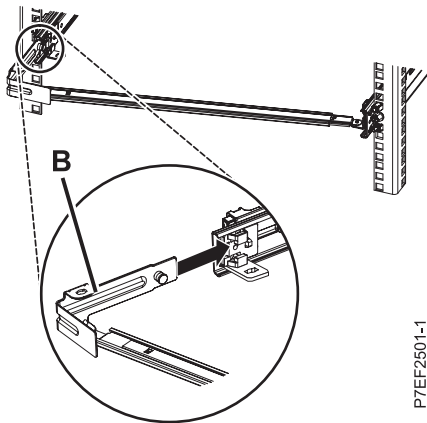

Figure 15. Extending the pin and installing the bracket into the slide rail
3. To attach the other side of the support arm to the rear of the slide rail, slide the bracket (B) into the left slide rail until the spring-loaded latch snaps into place, as shown in Figure 15.